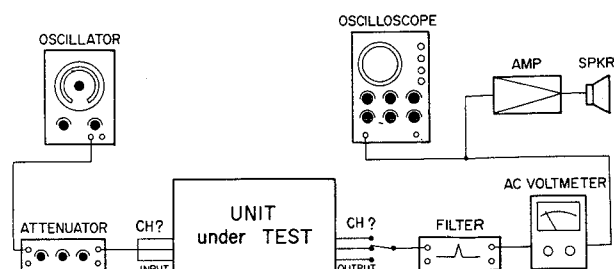

Fig. 7-37. Crosstalk Measurement Set-Up
1. Connect test equipment as shown in Fig. 7-37.